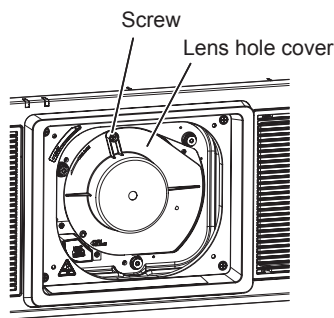

Fig. 1
1) Loosen the screw fixing the lens hole cover. (Fig. 1)